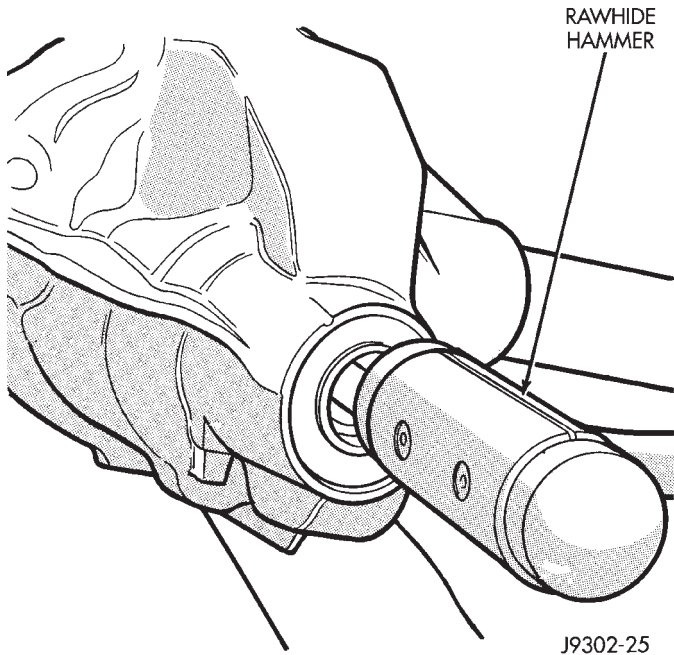

Fig. 19 Remove Pinion Gear
- (11) Remove the pinion gear from housing (Fig. 19). Catch the pinion with your hand to prevent it from falling and being damaged.
- (12) Remove collapsible spacer from pinion shaft.